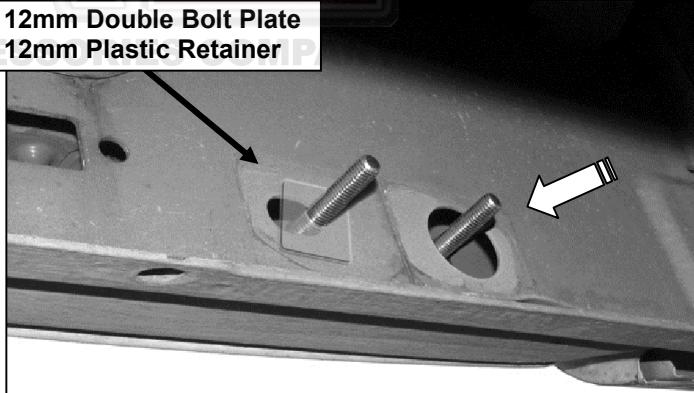

Fig 5
Insert the Bolt Plate into the larger round opening and out the smaller oval hole. Next, thread (1) 12mm Plastic Retainer onto the threaded end so that the Retainer covers the smaller oval hole, **(Figure 5)**. Thread the Retainer all of the way down to the sheet metal to help hold the Bolt Plate in place.